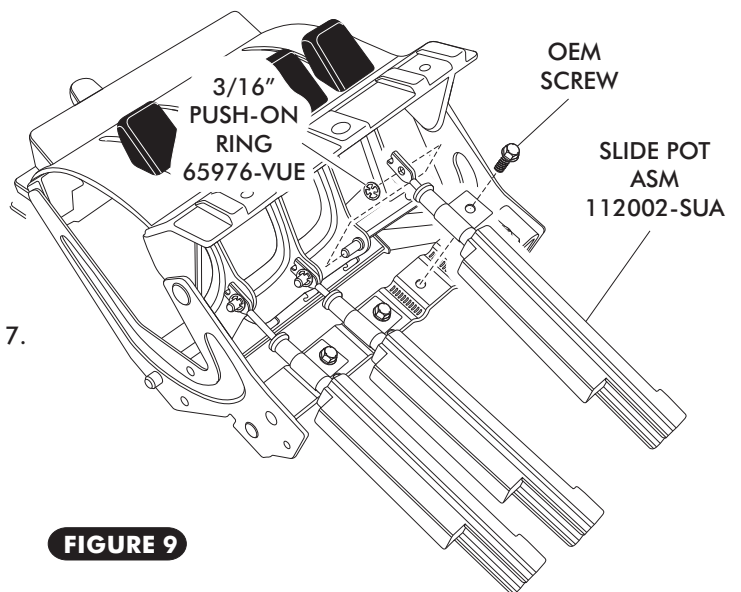

**FIGURE 8b**
- ONCE WIRES ARE CORRECTLY PLUGGED INTO SLIDE POT ASSEMBLY, SECURE WIRES TO THE SLIDE POT ASSEMBLY USING TIE WRAPS (SUPPLIED). SEE FIGURE 8b BELOW. THE TIE WRAP MUST BE LOCATED BETWEEN THE END OF THE WIRE JACKET AND THE STEP IN THE SLIDE POT HOUSING FORCING A BEND IN EACH WIRE AS THEY PASS OVER THE STEP IN SLIDE POT HOUSING. HEAD OF TIE WRAP MUST FALL ON EDGE OF HOUSING AS SHOWN TO REMAIN TIGHT. ENSURE THAT THE TIE WRAPS ARE SNUG ENOUGH THAT THE WIRES CANNOT MOVE. SEE FIGURE 8b.